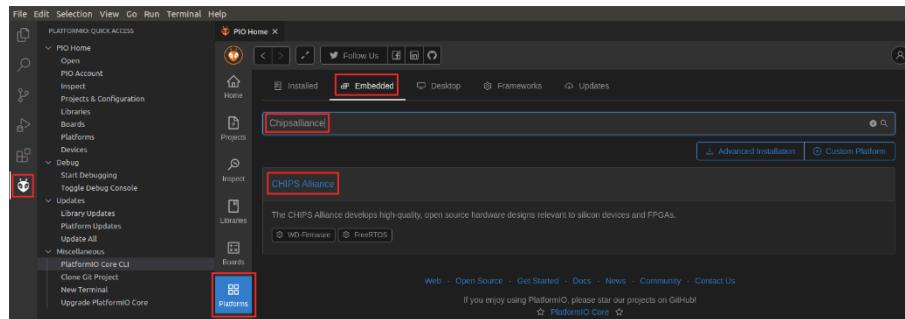

Figure 99. Selecting the CHIPS Alliance Platform
1. View the Quick Access menu by clicking on the  button, located in the left side bar (see Figure 99). Then, in the PIO Home, click on the  button and then on the  tab (Figure 99). Look for **Chipsalliance** (the platform that we use in
RVfpga) and open it by clicking on the **CHIPS Alliance** button (Figure 99).